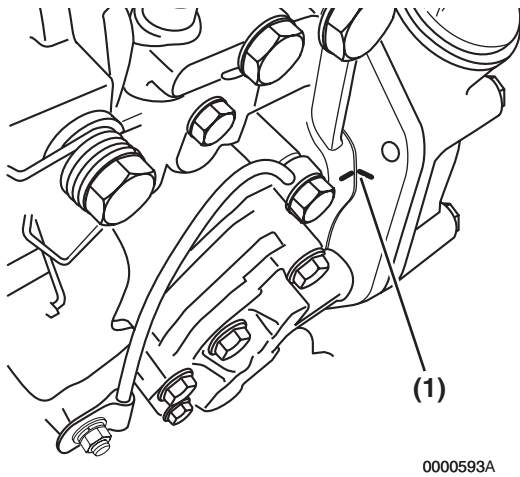

Figure 7-23
- Align the reference marks **(Figure 7-23, (1))** previously made on both the fuel injection pump mounting flange and gear case or front plate.